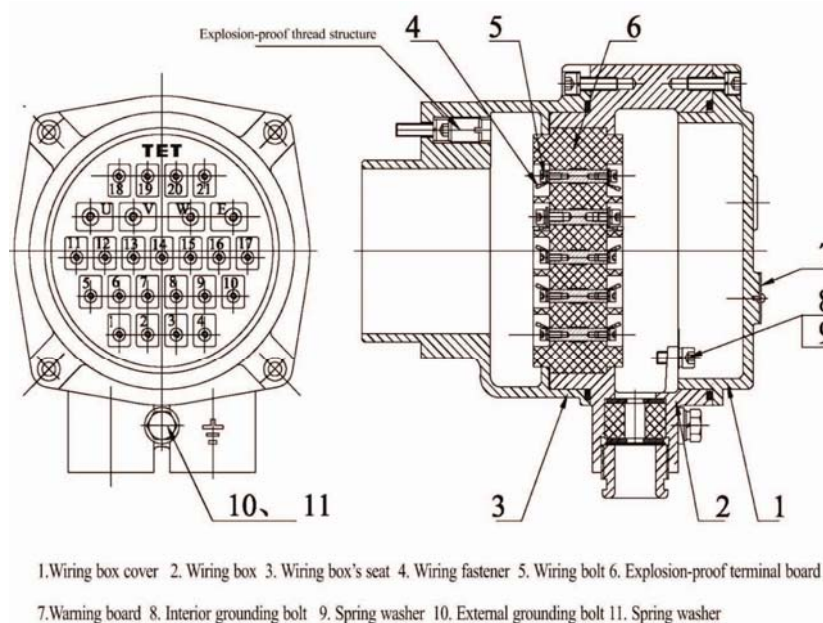
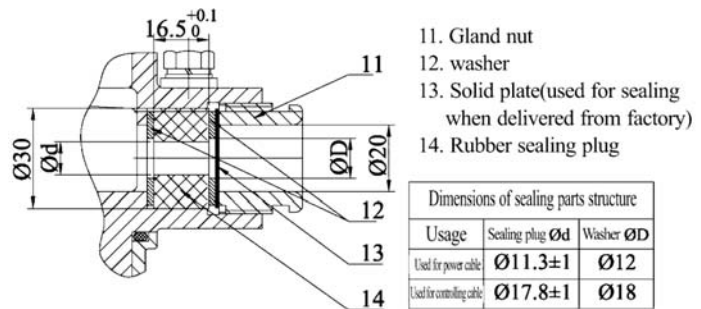
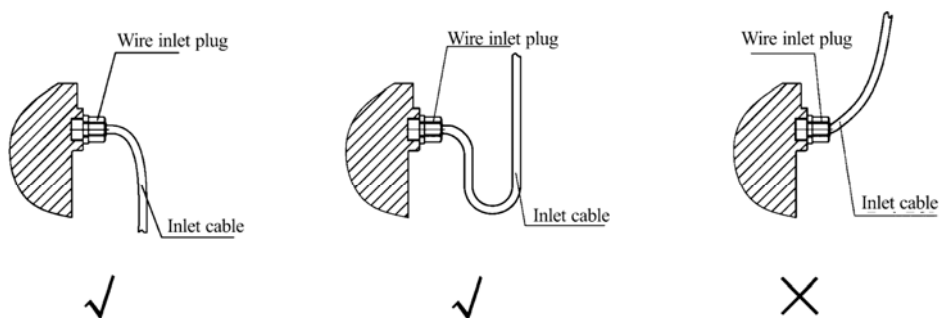

Fig.1
Fig.2
Fig.3
5.1.2 Remove various parts of sealing structure as shown in figure 2. Pull the power cable and control cable through separate sealing holes and lead the cable ends into connection cavity.
5.2.1 Please open No.1 “Wiring box cover” (Fig.1) and remove No.11,12,13,14(Fig.2)
5.3.4 If No.14 “sealing ring” in Fig.3 is broken, user could ask the factory for a new one or manufacture by you according to Fig.2.
5.3.5 Cable should be set up correctly to avoid the rain leaking into the electric actuator (In Fig.3, the first two connection patterns are right.)